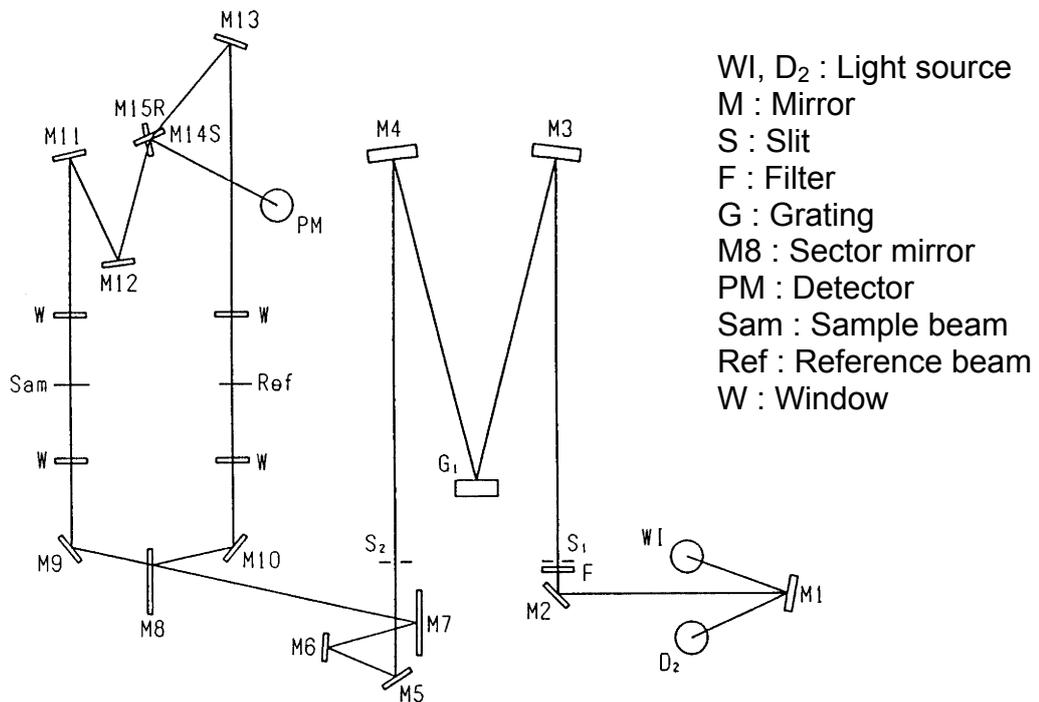

Figure 3.3 V-650 Optical system
(1) Optical System
The optical system varies between the models of the instrument. Figures 3.3 through 3.5 show the optical systems. The V-650 measures the absorption spectrum of a sample over a wavelength range of 190 to 900 nm, the V-660 measures the absorption spectrum of a sample over a wavelength range of 187 to 900 nm and the V-670 measures the absorption spectrum of a sample over a wavelength range of 190 to 2700 nm (can be extended to 3200 nm using the optional wavelength extension accessory). The light sources used are a deuterium (D_2) lamp (187 to 350 nm) for use in the UV region and a halogen (WI) lamp (330 to 2700 nm) for use in the VIS/NIR region. The light from the light source is focused and enters the monochromator. It is dispersed by the grating in the monochromator and focused on to the exit slit. The light that passes through the exit slit is monochromated. This light is split into two beams by a sector mirror, one going to the sample to be measured and the other to the reference sample such as a solvent. The beams that have passed through the sample and reference sample are alternately incident upon the detector (that is a photomultiplier tube or a PbS photoconductive cell).